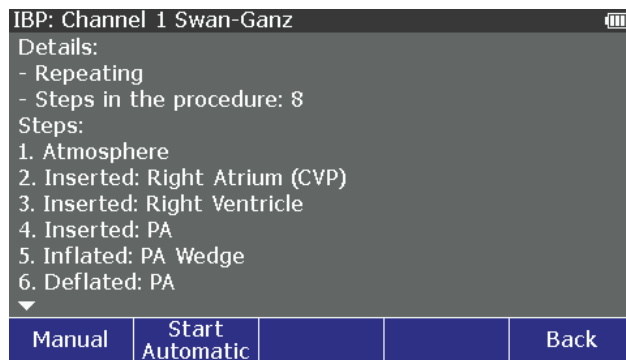

Figure 19. Initial Swan-Ganz Procedure Simulation Screen
3. Push **ENTER**. The details and steps in the procedure shown in Figure 19 are shown on the display.
When you push the **Stop** softkey, the procedure simulation is stopped and the initial test screen shown in Figure 19 shows on the display.